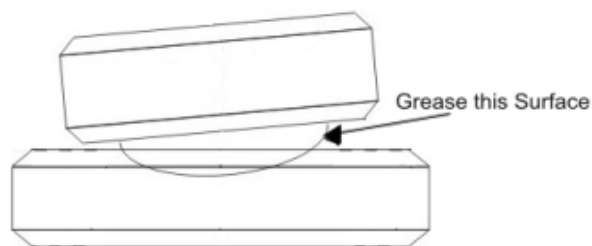

Figure 3 – Tilt Saddle
-  To reduce cylinder offset loading, optional swivel saddles are available. Always use grease underneath swivel saddles (see *Figure 3*).